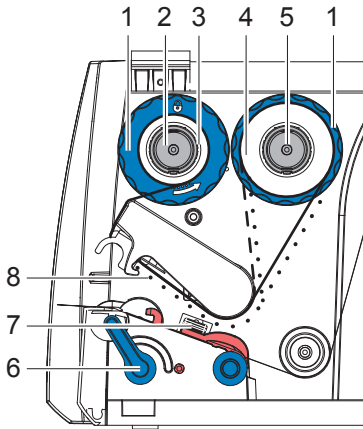

Fig. 10 Transfer Ribbon Feed Path
**To wind the ribbon an empty ribbon core (3) is needed that must be at least equal in width to the supply ribbon.**
4. Adjust position of the edge guide on the take-up hub to the width of the ribbon core (3) and push ribbon core on the take-up hub (2).
5. Guide the transfer ribbon through the printing unit as shown in Fig. 10 in a way that the ink coating (8) of the ribbon contacts on the media to be printed NOT the printhead.